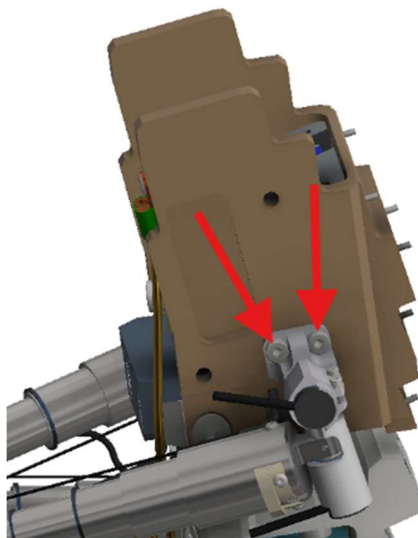

Figure 5-54. Attach upper thoracic IR-TRACCs to upper thoracic spine
- 5.3.20 To attach each of the Upper Thoracic IR-TRACC Assemblies to the Upper Spine Box (474-3100) use two M4 X 0.7 X 12 mm SHCS per assembly (Figure 5-54).